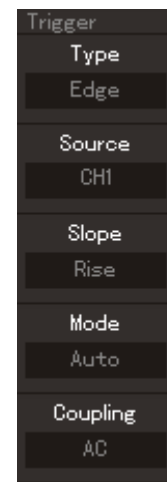

Figure 1-12
2. (As shown in Figure 1-12,) TRIGGER MENU can be used to alter trigger setup.